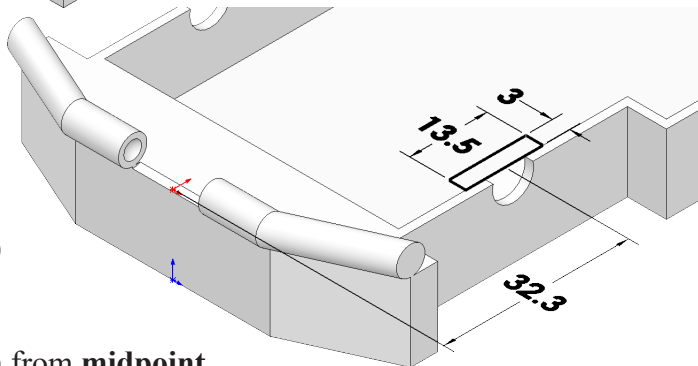

Fig. 78
Step 4. Click **Smart Dimension**  (S) on the Sketch toolbar.
Step 5. Add dimensions, **Fig. 78**. Dimension from **midpoint to model blue Origin**.